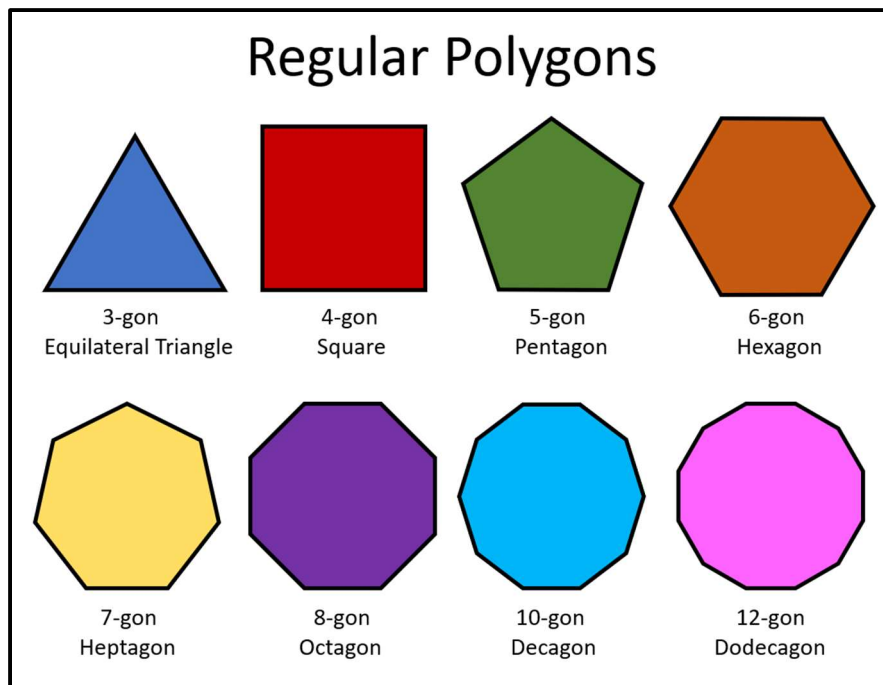

Figure 1
Figure 1 shows some examples of common regular polygons. An n -gon polygon has n equal sides with n equal internal angles. An equilateral triangle and square are probably the most well-known polygons. The headquarters of the United States Department of Defense is a 5-gon building aptly known as the Pentagon. Beehive cells are known for their hexagon shape. Throughout the world, a red octagon warns us to stop. Some countries mint decagon and dodecagon coins.
1. Your teacher will provide you with a full-page printed copy of one of the regular polygons that appears in Figure 1. Design an OzoBlockly program using move and rotate blocks in a loop that will make Evo “trace” the regular polygon once and then stop and turn off. Evo should start in the circled vertex facing the direction of the arrow. It is advisable to include a “wait” block at the start of the program. This will give you a few seconds to make sure that Evo is centered on the circle and facing the direction of the arrow before Evo starts moving. Finally, you need to keep in mind that Evo can only handle input values as large as 127. Therefore, if the move distance exceeds 127 mm or the rotate angle exceeds 127° , you will need more than one move block or rotate block to handle larger numbers.